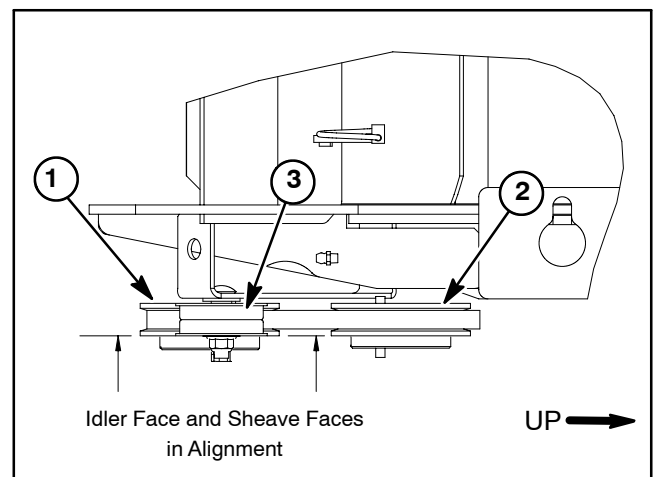

Figure 36
10. Tighten two (2) set screws to secure pulley to rotating corner shaft.
**IMPORTANT: After adjusting belt tension, check that the faces of the idler, drive and driven pulleys are all in alignment (Fig. 36). This is necessary to ensure that idler pulley is correctly aligned to drive belt. If necessary, re-adjust positions of drive and driven pulleys to allow correct alignment.**